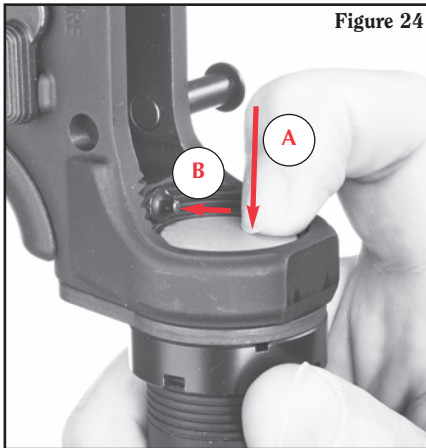

Figure 24
6. Buffer and Spring Field Stripping. (See Figures 24 & 25.)